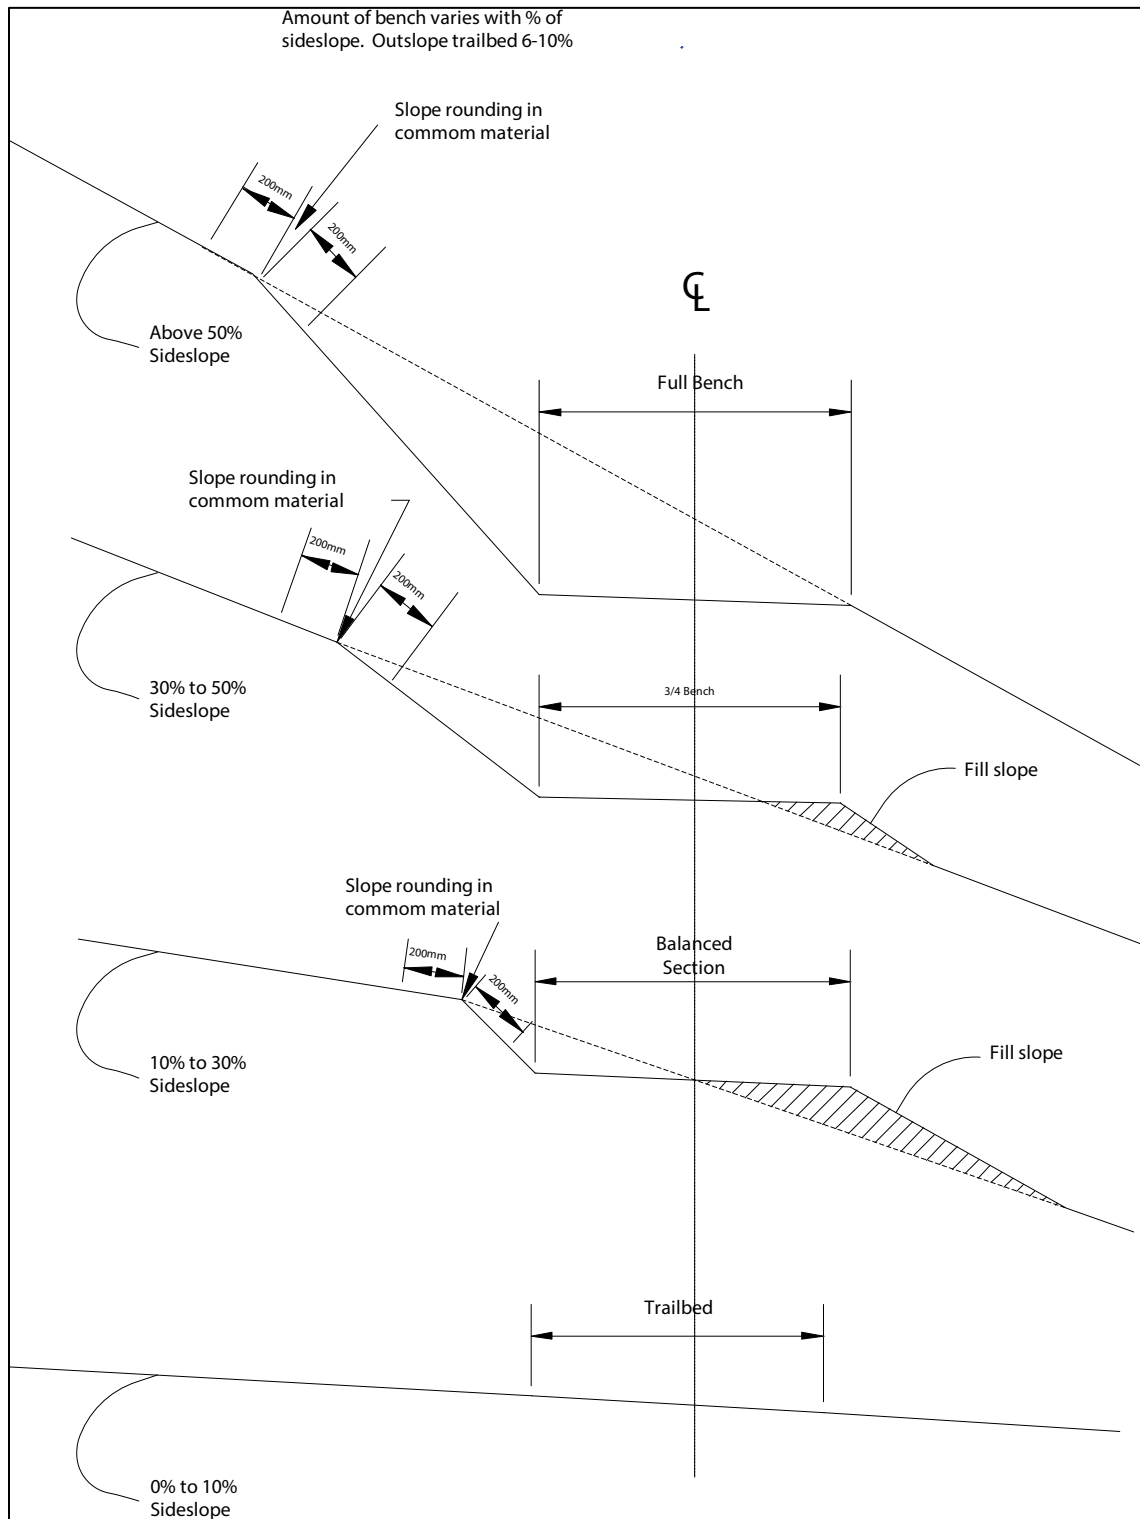

Figure 3 – Typical Trail Construction Design on Varying Slope Angles
- **Bench Cut** (see figure 3) – Typically utilized to construct trail along a hillside, creating a bench cut involves excavating material from the hill and constructing the trail on exposed ground or excavated material. The percentage of the trail built on excavated ground or fill material is based on the side slope of the terrain in the area of the trail corridor.